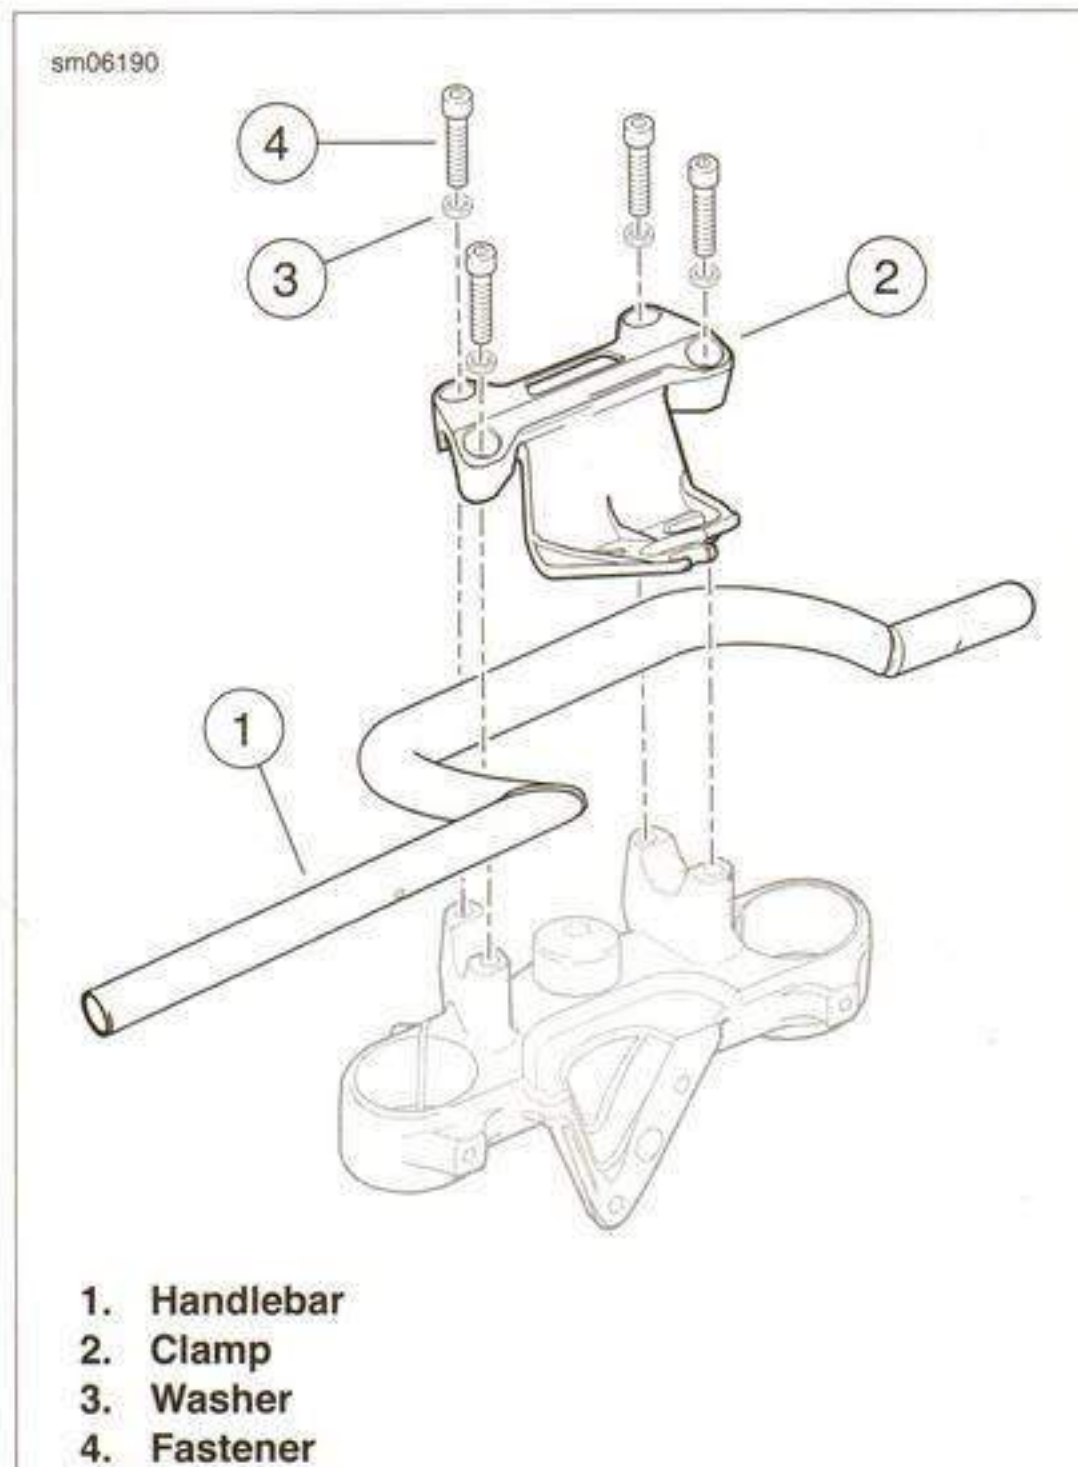

Figure 2-150. Handlebar Assembly
4. See Figure 2-150. Install the washers (3) and fasteners (4) and finger tighten.